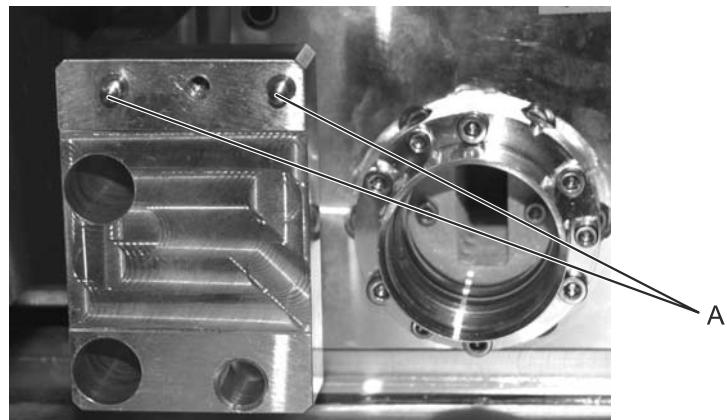

Figure 108: Attaching the energy monitor
11. Insert the energy monitor into the laser device and carefully attach it onto the two locating pins (see Figure 108, A).